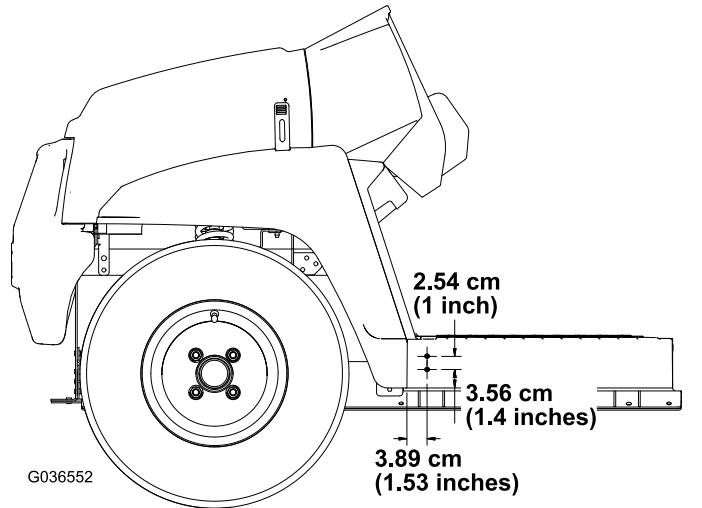

Figure 29
- Using the dimensions shown in Figure 29, drill 2 holes (5/16 inch) into the outside of the floor plate on the left and right sides of the machine.